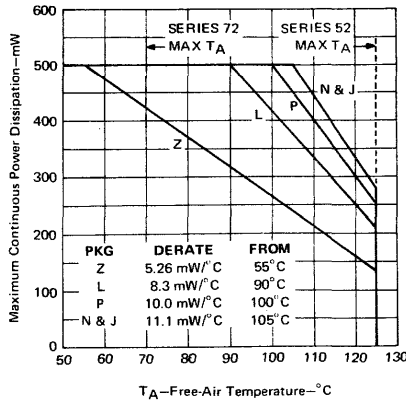

FIGURE 13
5. For operation above 55°C free-air temperature, refer to Dissipation Derating Curve, Figure 13.